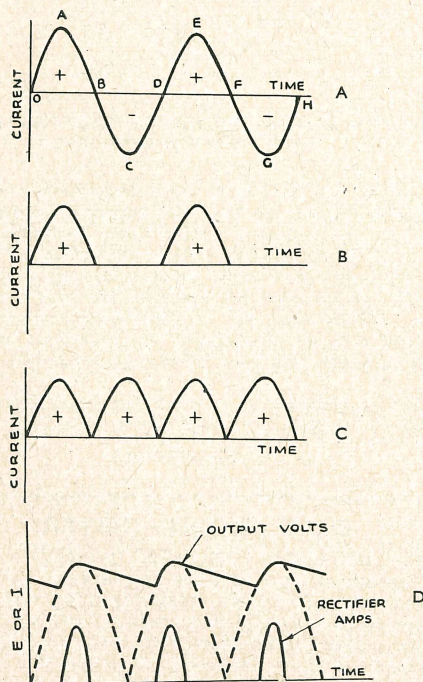
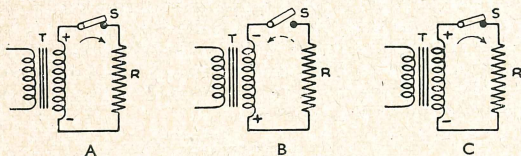
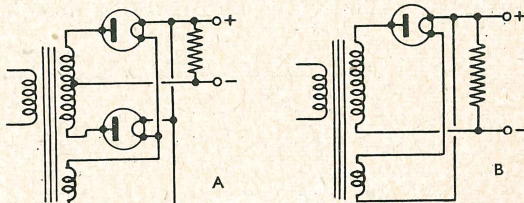

Fig. 1.
Fig. 2.
Fig. 3.
First consider an alternating wave form such as is represented in Fig. 1 (a). During certain intervals OAB, DEF, etc., the wave form is above the datum line and can be considered as positive. During the following intervals, BCD, FGH, etc., the wave form is below the datum line and must, therefore, be considered negative.
The simplest way to obtain a unidirectional current, or voltage from an alternating one, is to suppress one half of each cycle, as shown in Fig. 1 (b) where the negative halves are shown suppressed. This is called half-wave rectification. Another method is to invert the negative halves so that they are brought above the datum line, in which case we have achieved full-wave rectification (Fig. 1 (c)).
Fig. 2 (a) shows a transformer T across whose secondary a resistor R can be connected by closing the switch S. The resistor can be considered as the load represented by the valve currents of a receiver or transmitter.
Suppose we consider the instant O in Fig. 1 (a) when the voltage is just becoming positive. During the ensuing quarter cycle the voltage will increase to its maximum value, shown by the point A. For this interval we can mark the top end of the secondary winding in Fig. 2 (a) as positive and the bottom end negative, so that the current may be shown as circulating clockwise. During the next quarter-cycle
At the end of the complete half-cycle considered so far, the voltage will begin to reverse, and we must, therefore, open the switch S because we need a uni-directional voltage only. We can now mark the top of the secondary winding as negative and the voltage would be acting anti-clockwise had we not opened the switch to stop all current flow. We must hold the switch open for the whole of the interval during which the current is negative, and this will last for a half-cycle till the point D in Fig. 1 (a) is reached, when we can again close the switch to allow the load to receive another half-cycle pulse of positive voltage. The shape of the curve will now be as shown in Fig. 1 (b)
Clearly a mechanical switch would have to be very rapid in action, for assuming the usual 50-cycle per second supply, a full positive or negative pulse will last for only 1/100th of a second. A valve, however, is practically instantaneous in operation and so provides a useful alternative device. We need merely connect the anode-filament gap in series with the load and arrange to heat the filament in order to obtain the electron stream. Instead of using an accumulator for filament heating, it is usually more convenient to draw the necessary heating current from a winding on the transformer, Fig. 3 (a). The reversals of the heating current will have little effect on the operation of the circuit for electrons will be emitted regardless of the direction in which the heating current flows through the filament. The filament current will fluctuate in accordance with the amount of current passing through it, but its natural property of losing heat only comparatively slowly will maintain its temperature sufficiently to continue the emission of electrons while the current is passing through zero.
In order to rectify the negative half-cycles which are suppressed in the arrangement so far discussed, two half-wave rectifiers must be employed. It will be necessary to add an additional secondary winding and switch to the circuit of Fig. 2, or, to go a step further, an additional secondary winding and rectifier to the circuit of Fig. 3 (a), thereby giving us the full-wave circuit of Fig. 3 (b). The common junction of the two secondary windings is equivalent to a centre-tapped winding of twice the original number of turns. Thus, a transformer giving, say, 350 volts on either side of the centre tapping will often be found referred to as a 350-0-350 volt transformer.
- (a) A half-wave rectifier. The switch of Fig. 2 is replaced by the anode-filament gap of the valve, and a filament heating winding added.